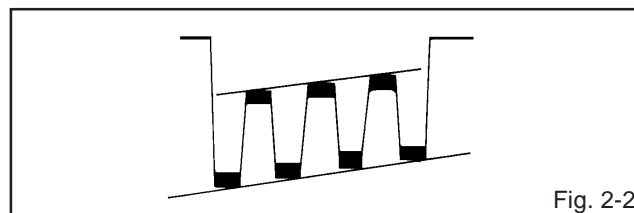

Fig. 2-2
4. Press the VOL. UP/DOWN button on the remote control until the waveform becomes as shown in **Fig. 2-2**.